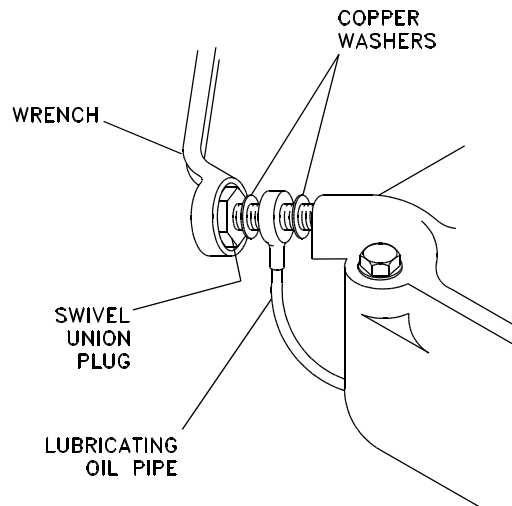

Figure 6-4. Removing Swivel Union Plug and Lubricating Oil Pipe
- (3) Using a wrench as shown in Figure 6-4, remove swivel union plug and lubricating oil pipe from each cylinder head cover. Remove and discard copper washers.
- (7) (Refer to Figure 6-4) Reconnect lubricating oil pipes to cylinder head covers by reinstalling swivel union plugs (PN 601-30945) and new copper washers (PN 291-26090). Torque swivel union plugs to 36 in-lb.